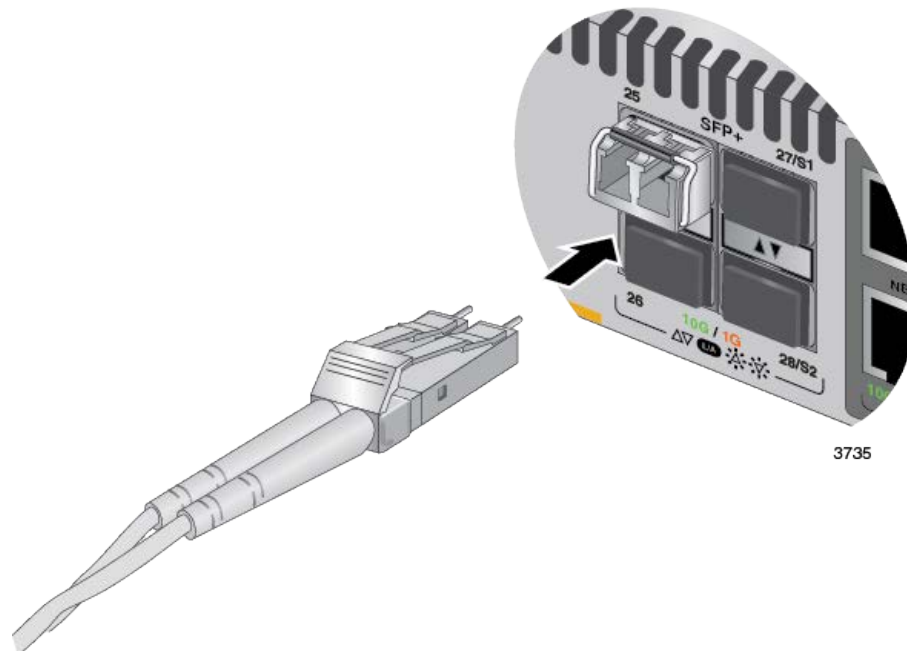

Figure 78. Connecting a Fiber Optic Cable to an SFP or SFP+ Transceiver
7. Connect the fiber optic cable to the transceiver, as shown in Figure 78. The connector on the cable should fit snugly into the port, and the tab should lock the connector into place.